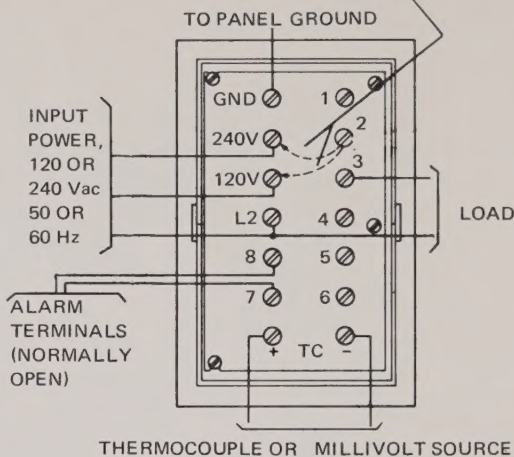

Figure 2. Wiring for Single Output Models with Solid State Switching Output
3. Power Wiring See figures 2 and 3.
4. Input Wiring See figures 2 and 3.
Figures 2 and 3 show the two normally open alarm terminals. When an alarm is tripped these two terminals are connected.